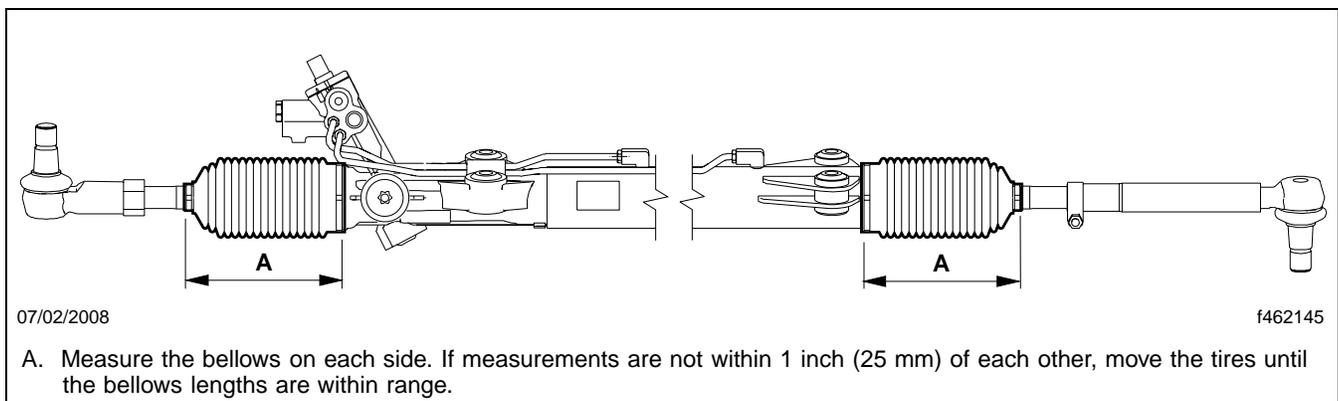

Fig. 9, Measuring the Tie Rod Bellows
- 42.1 Measure the length of the bellows from clamp to clamp on each side of the gear. See **Fig. 9**. If measurements are not within 1 inch (25 mm) of each other, move the tires until the bellows lengths are within range.
42.1 Measure the length of the bellows from clamp to clamp on each side of the gear. See **Fig. 9**. If measurements are not within 1 inch (25 mm) of each other, move the tires until the bellows lengths are within range.